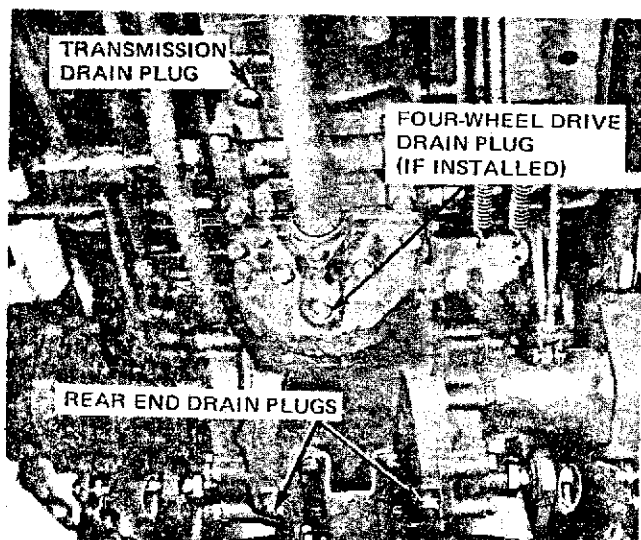

Figure 35 — Transmission and Rear Axle Oil Drain Plugs
1. With the oil at normal operating temperature, drain and discard the oil by removing the transmission and rear axle drain plugs, Figure 35. Reinstall the plugs after the oil has been drained. Discard the oil.